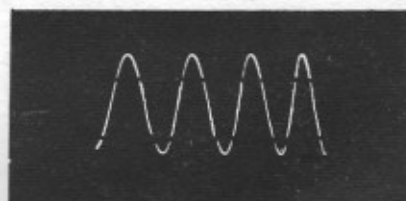

FIGURE 31
- () Set the SYNC. SELECTOR switch to the +INT. position, the HOR. GAIN control to 30, the VERT. ATTENUATOR switch to X10 and the VERT. GAIN control to 100. Now set the HOR./FREQ. SELECTOR to the line between 10 and 100 and adjust the FREQ. VERNIER to obtain a pattern consisting of four complete sine waves similar to that shown in Figure 31. This check indicates that the time base generator is operating normally at a frequency of 50/4 or $12\frac{1}{2}$ cycles per second. Reduce the HOR. GAIN setting if necessary. The breaks are caused by the fields of the power transformer. This will not be present with the external signal.